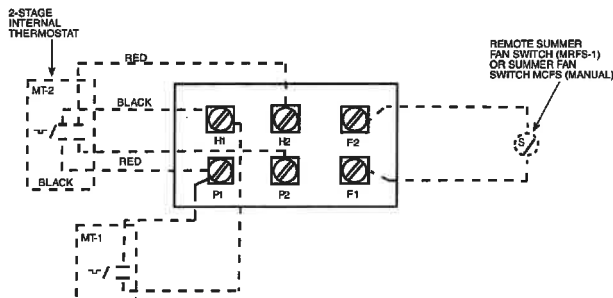

Figure 4. Control Terminal Board (for Heaters Without Contactors)
3. On units not provided with internal contactor (3 & 5 KW), refer to Figure 4 for wiring diagram.